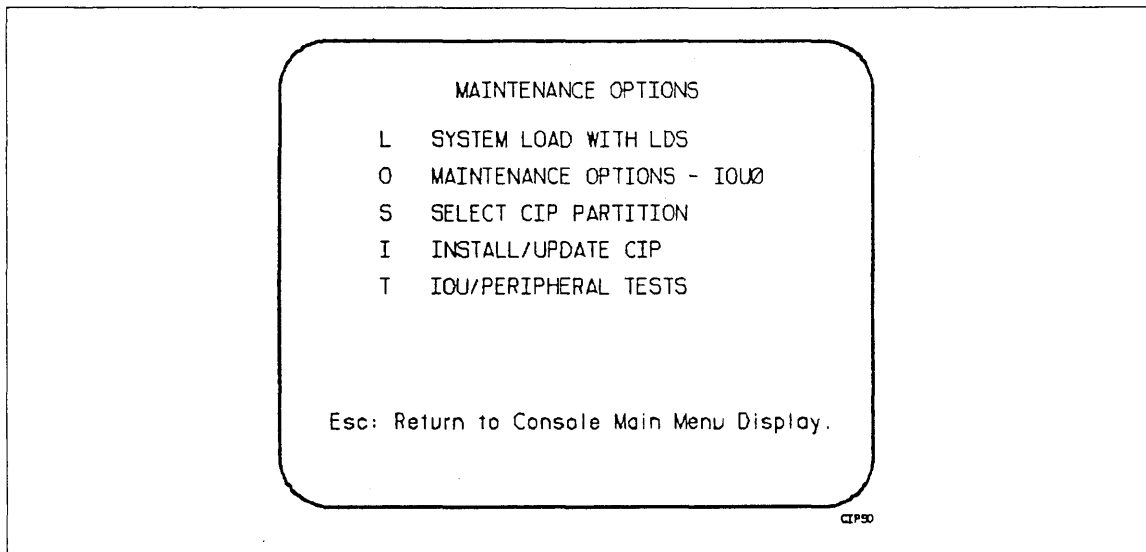
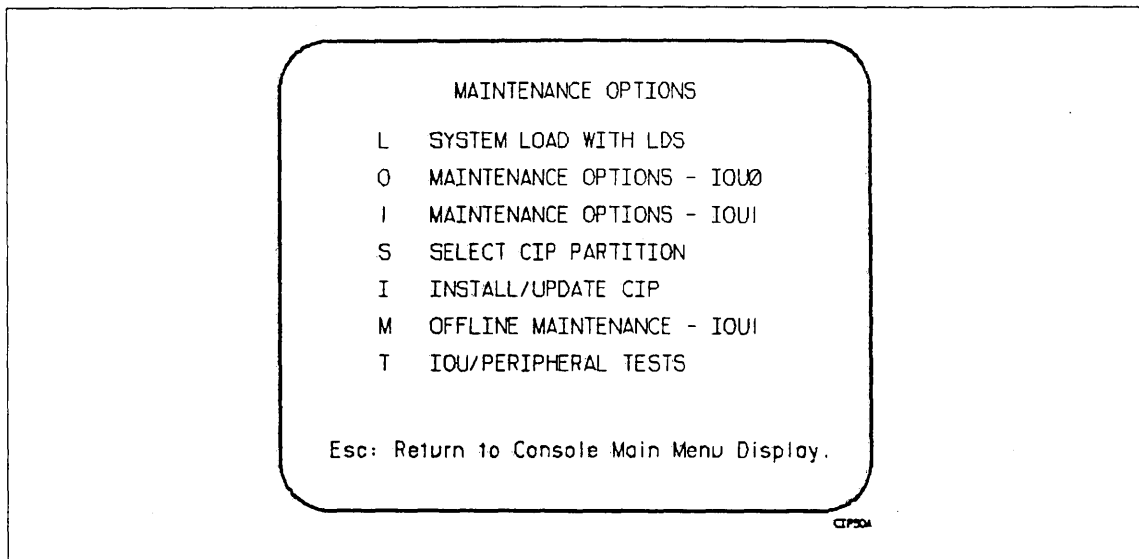

Figure 5-8. Maintenance Options Menu (CC598A Console, Single IOU System)
Figure 5-9. Maintenance Options Menu (CC598A Console, Dual IOU System)
- ___ 4. If the appropriate deadstart program is not selected, enter M from the CONSOLE MAIN MENU to bring up the MAINTENANCE OPTIONS menu. If your system has a single IOU, the MAINTENANCE OPTIONS menu shown in figure 5-8 will appear. If your system has a dual IOU, the MAINTENANCE OPTIONS menu shown in figure 5-9 will appear.